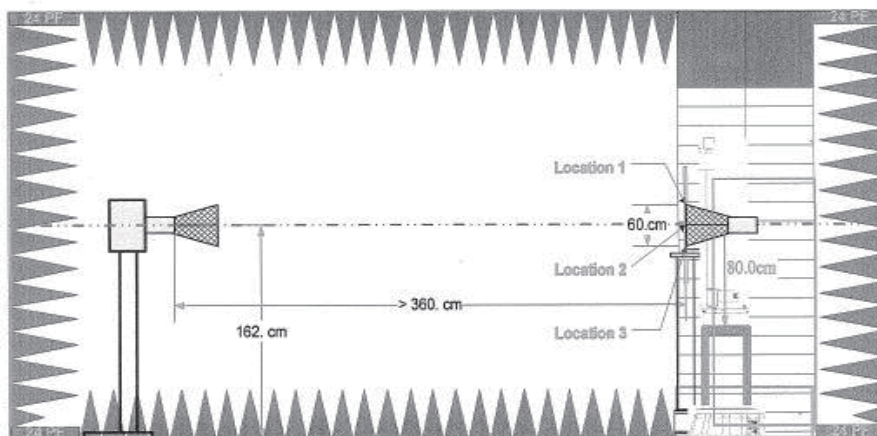

Fig.2 Quiet zone
**Equipment** : Anechoic Chamber(Fig. 2), Network Analyzer(Agilent E8753ES), Standard Horn